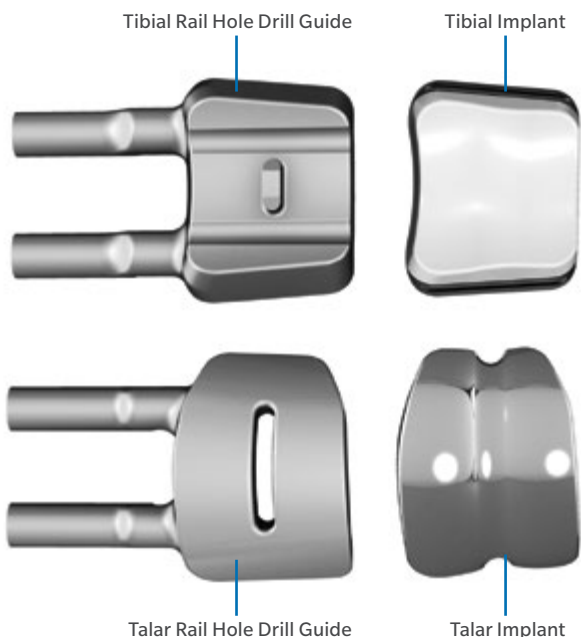

Fig. 64
- The Drill Guides replicate the final implant dimensions to confirm proper bone preparation and implant positioning (Fig. 64).